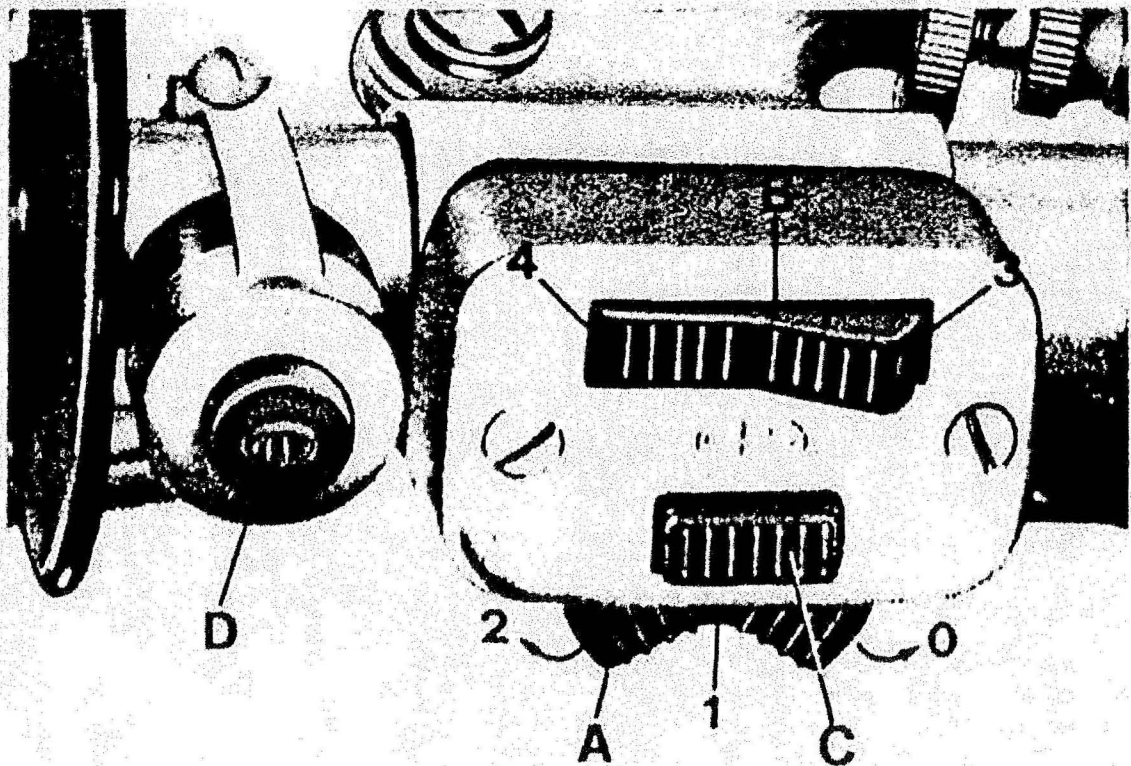

Fig. 9
daylight riding no other operation is necessary. For night driving levers A and B on the switch must be actuated (see fig. 9).
- 11) **Light switch and horn button (fig. 9).** It is on the L/H side of the handlebar.